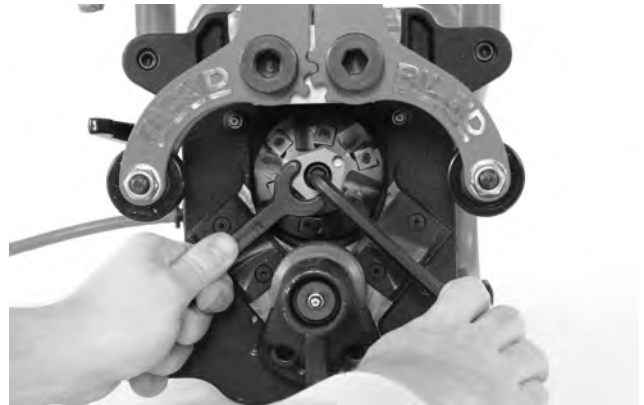

Figure 25A – Changing Cutter Heads
- Using a $\frac{5}{16}$ " hex wrench, remove the socket head cap screw that holds the Cutter Head in place (Figure 25A).